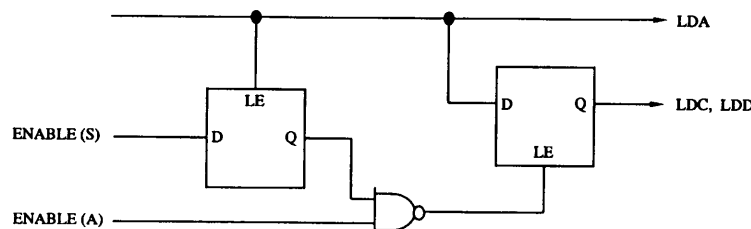
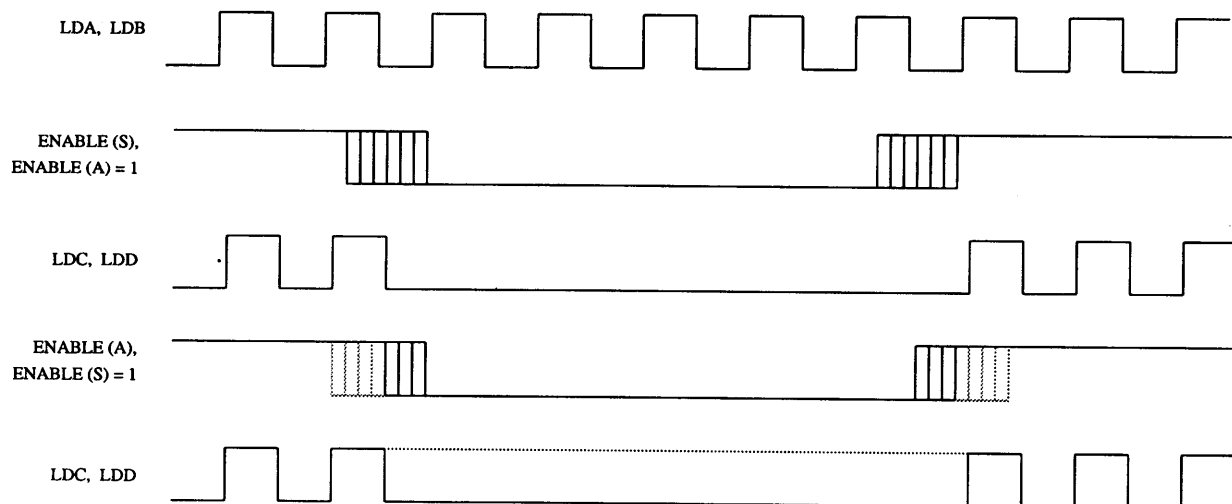

Figure 1. ENABLE Control Implementation.
Figure 2. Load Output Timing.
While both ENABLE (S) and ENABLE (A) are a logical one, LDC and LDD will be free-running and in phase with LDA and LDB. This architecture allows the shift registers of the video DRAMs to be optionally non-clocked during the retrace intervals. Figure 1 illustrates the ENABLE implementation within the Bt440, while Figure 2 shows the load output timing.